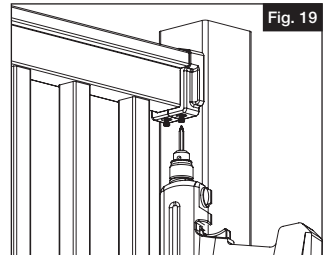

Fig. 19
- d. While tightly squeezing the bracket cover closed, pre-drill using a $\frac{5}{32}$ " drill bit through the two holes underneath. Then, drive two #10 x 1" square drive screws through the cover, metal bracket and into the top rail (Fig 19).